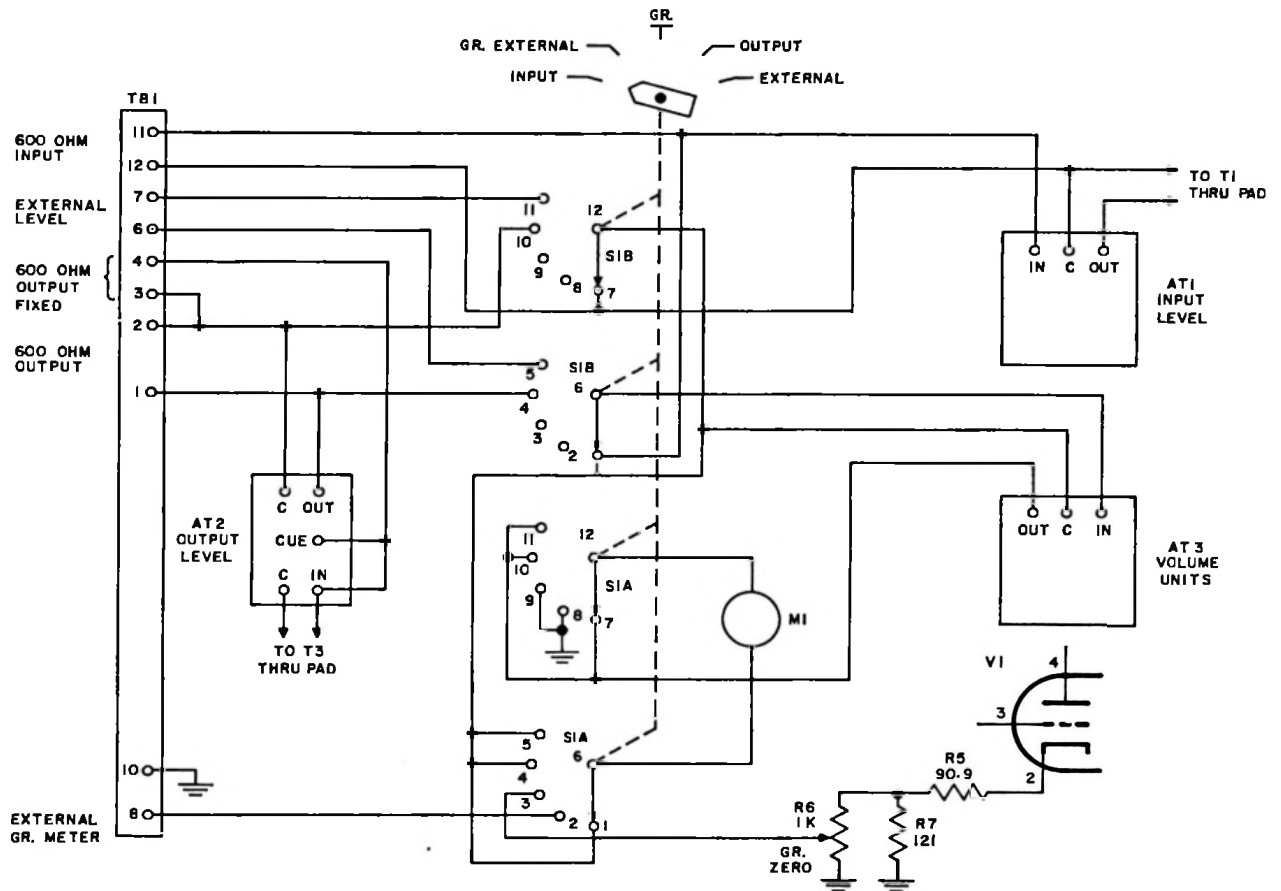

Figure 4-2. Metering Circuits, Simplified Diagram
Meter M1 is a panel-mounted, rectifier-type meter calibrated in volume units (VU) and db gain reduction units. The meter is connected to three internal circuits, INPUT, G.R., and OUTPUT, and to two external circuits, G.R. EXTERNAL and EXTERNAL (audio), by the METER switch S1. When the meter is measuring audio, a meter multiplier, AT3, calibrated in volume units is connected to it. When the meter is used to measure gain reduction, the meter multiplier, AT2, is switched out of the circuit. Refer to figure 4-2. The VOLUME UNITS attenuator, AT3, extends the meter calibration in 2-vu steps so that the meter can indicate levels in the range of -16 VU to +27 VU and OFF.